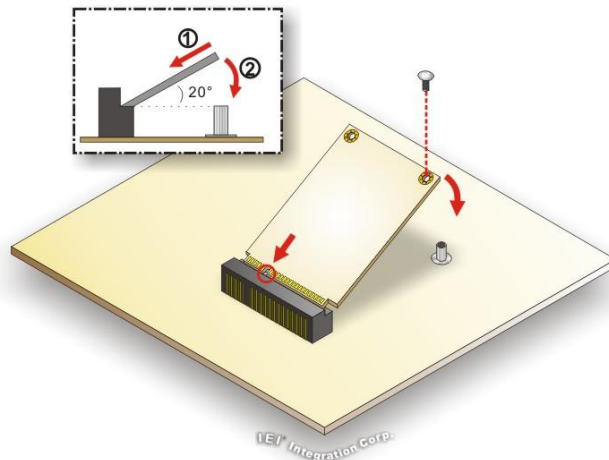

Figure 3-3: M.2 Module Installation
- Step 6:** Push the other end of the M.2 module down and secure the module with the previously removed retention screw (**Figure 3-3**).